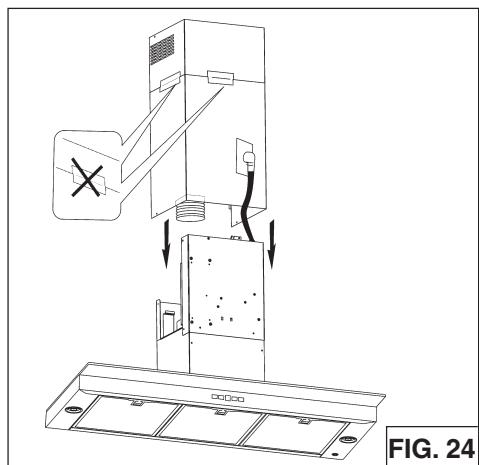

FIG. 24
10. Remove tape from flues and lower into position on the hood (Fig.24).